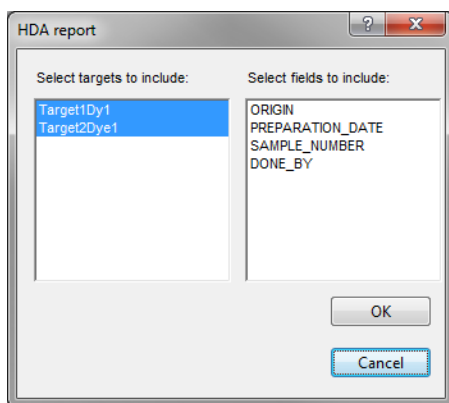

Figure 4.2: The *HDA report* dialog box to select targets and information fields to display in the report window.
- 6.2 Select a batch and choose **HDA > Report** to call the *HDA report* dialog box (see Figure 4.2).